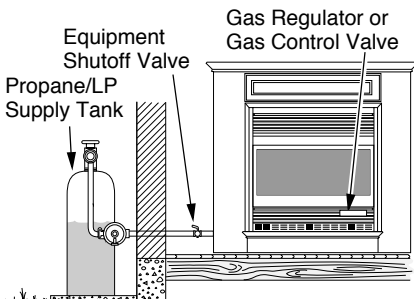

Figure 25 - Checking Gas Joints (Propane/LP Only)
3. Check all joints from gas meter to equipment shutoff valve for natural gas or propane/LP supply to equipment shutoff valve for propane/LP (see Figures 25 or 26). Apply non-corrosive leak detection fluid to all joints. Bubbles forming show a leak.
4. Check all joints from equipment shutoff valve to gas regulator (Thermostat-Controlled Models), or to gas control valve (Remote-Ready Models) (see Figures 25 or 26). Apply non-corrosive leak detection fluid to all joints. Bubbles forming show a leak.